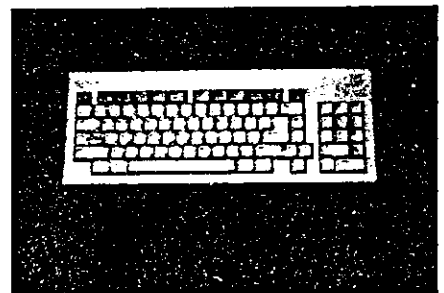

Fig. 2-3. Keyboard
**2.2.1** If keyboard replacement is necessary, remove keyboard cable from keyboard assembly, DO NOT REMOVE KEYBOARD FROM CASE ASSEMBLY. Warranty exchange is for the entire keyboard assembly, as shown in Fig. 2-3.